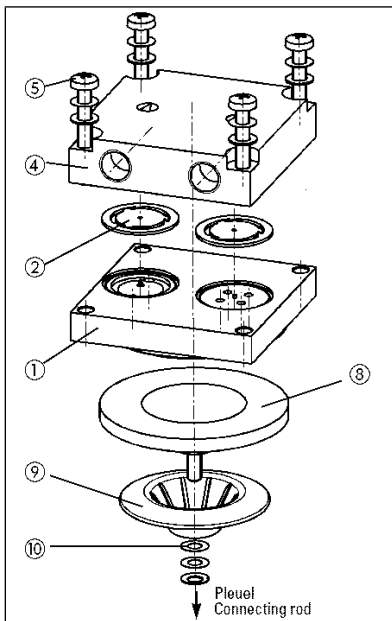

Fig.7 Replacing the structured diaphragm
4. Loosen the four screws (Fig. 7/5).
5. Remove the head plate (Fig. 7/4) and the intermediate plate (Fig. 7/1).